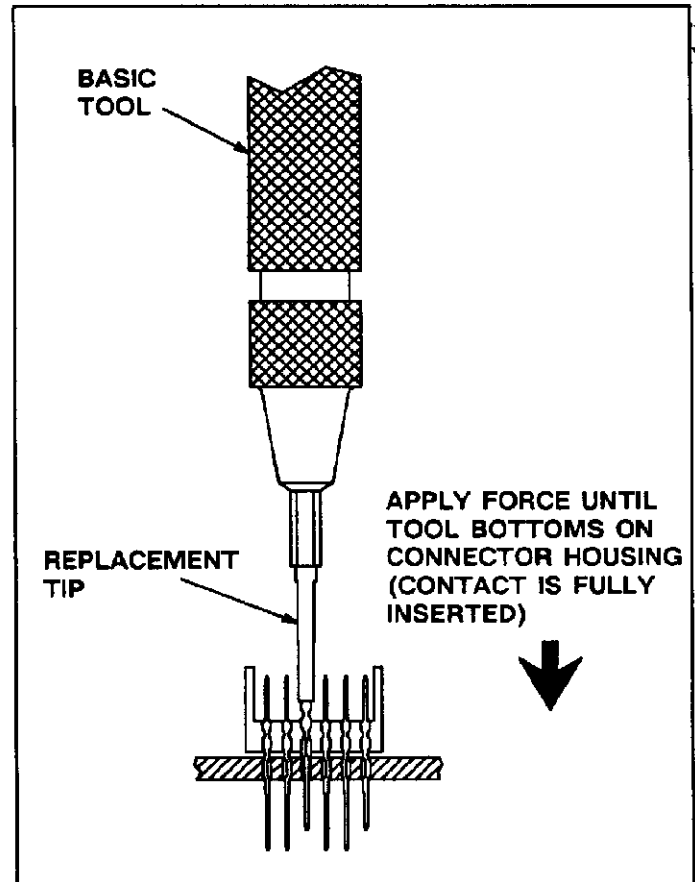

Fig. 3
4. CONTACT REPLACEMENT (Figure 3)